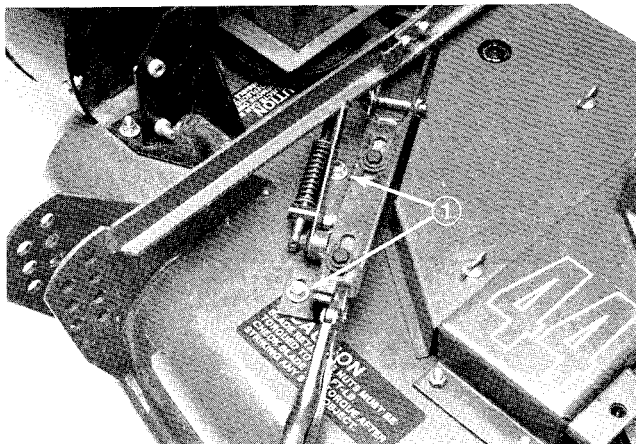

Figure 14
5. Remove clamp and mount idler assembly to deck with (2) 5/16-18x5/8" lg. carriage bolts, flatwashers, and nuts. Position washer between nut and idler assembly (Fig. 14).